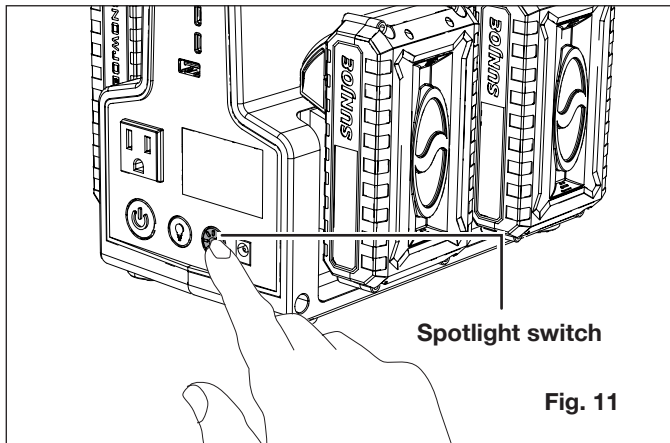

Fig. 11
2. Press the spotlight switch to turn on the spotlight (Fig. 11).